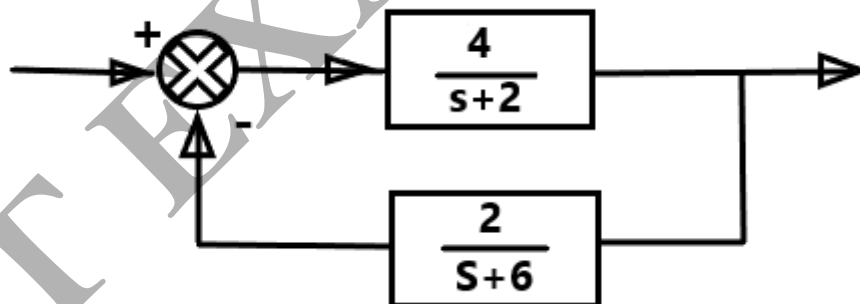

Figure 2b
- (b) Consider the system block diagram shown in Figure 2b.